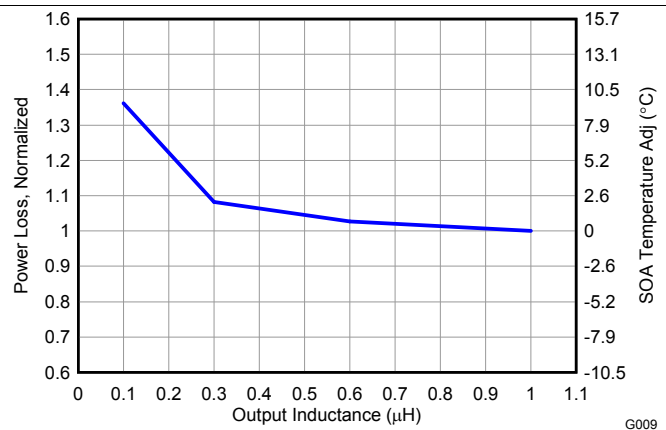

Figure 9. Normalized Power Loss vs Output Inductance
- Normalized Power Loss for output inductor  $\approx 1.06$  (Figure 9)